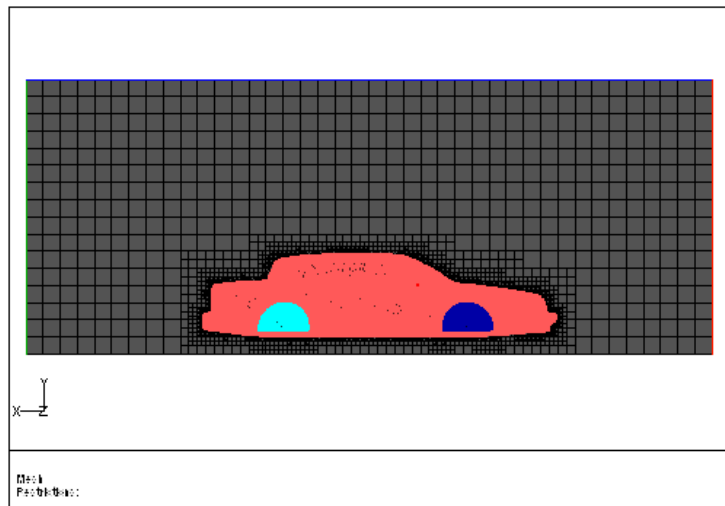

Figure 6.2: Hexcore Mesh Upto Domain Boundaries
- (f) Click **Display** in the **Display Grid** panel (Figure 6.2).
In Figure 6.2, you can see that the hex cells are generated upto the extents of the domain defined in the Hexcore panel. For easy recognition, the newly created zones are named wall-x-max, wall-x-min, wall-y-max, etc.